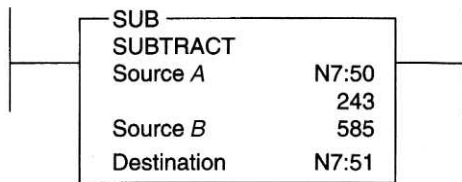

Figure 11-11 SUB instruction for question 16.
16. With reference to the SUB instruction of Figure 11-11, the value of the number stored at Destination is 16._____